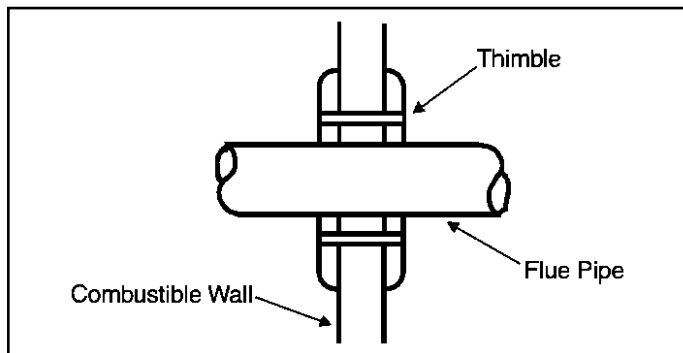

Figure 5. Wall Thimble
7. The flue pipe may pass through a wall where provisions have been made for a thimble as specified in the Standards of the National Board of Fire Underwriters (see Figure 5).